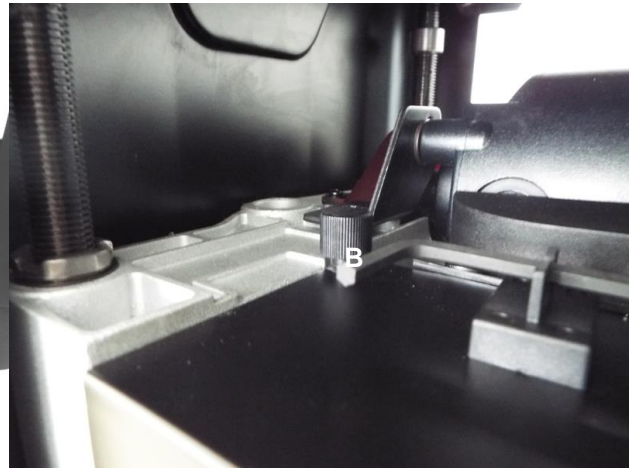

FIG 7
3. Remove the cutterhead guard (A) by removing the thumb screws (B). SEE FIG 7 on the following page.